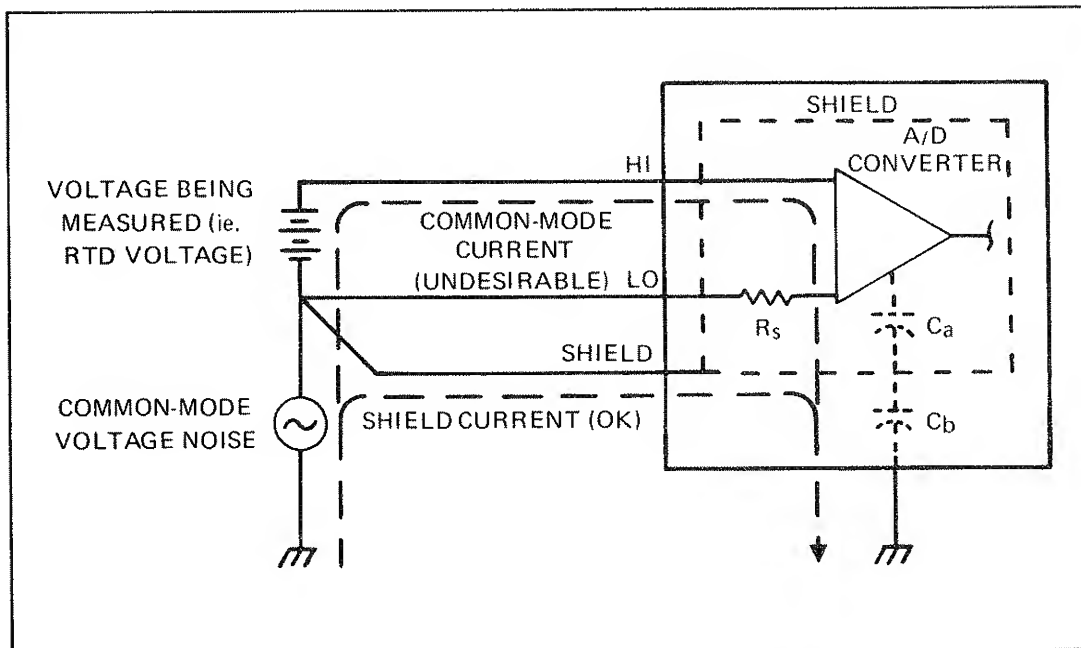

Figure 603-1. Shield Connection for Optimum Common Mode Rejection
603-6. The purpose of the SHIELD connection is to improve rejection of common-mode voltage noise. This is done by connecting the SHIELD lead to the LO lead at the measurement point as shown in Figure 603-1. In the presence of common-mode voltage, this connection provides a path for the current which flows as the capacitance between the A/D Converter and the chassis is being charged or discharged. Since the A/D converter and the Shield (built into the instrument) are forced to track the same voltage, the common-mode current in the HI and LO leads is minimized. It is this current which produces unstable readings. It is important to note that HI, LO and Shield are fully isolated and capable of being safely floated to 350 Volts above ground. The following guidelines should be followed when connecting the RTD Input Connector:
2. If significant common mode voltage (greater than one volt) is present, connect SHIELD to LO by means of a third wire at the measurement point as shown in Figure 603-1.